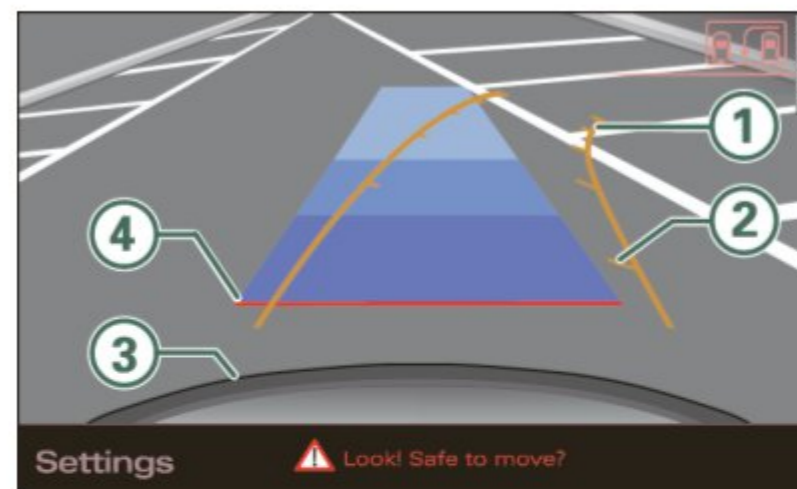

Fig. 157 MMI Display: Aiming at a parking spot
- Turn the steering wheel until the orange orientation lines ① appear in the parking spot ⇒ *page 162*, fig. 157. Use the markings ② to help you estimate the distance from an obstacle. Each marking corresponds to 3 ft (1 m). The blue area represents an extension of the vehicle's outline by approximately 16 ft (5 m) to the rear.
- While driving in reverse gear, adjust the steering wheel angle to fit the parking space with the aid of the orange orientation lines ⇒ ⚠. ③ marks the rear bumper. You should stop driving in reverse as soon as and no later than when the red orientation line ④ abuts an object ⇒ ⚠!